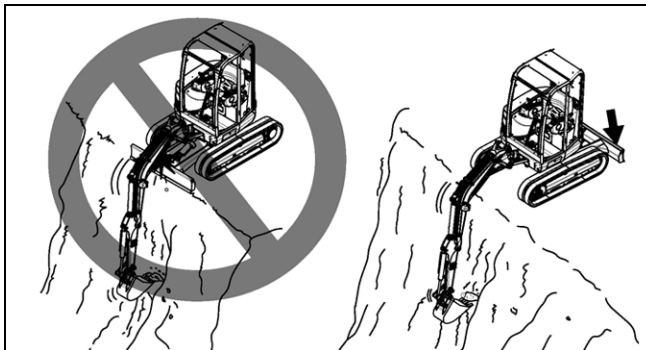

Figure 3-41 Dozer Blade Positioning
- Working alongside trenches and deep excavation are two applications where the dozer blade might restrict bucket movement. When working alongside trenches, lower and place the dozer blade on the ground to avoid damage to the boom cylinder. When deep excavating, position the machine so the lowered dozer blade is on the opposite side of the excavation (Figure 3-41).